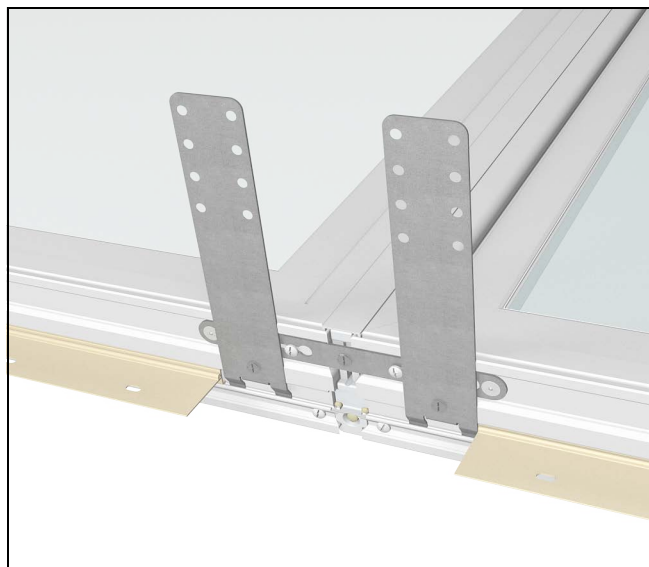

Figure 16
4. For sill mullion joints, take previously removed sill nail fin and cut sill nail fin at each mullion joint location and shorten the ends of each by 3" - 3.5" (76-89) near each mullion to allow space for the flat sill structural brackets and nail fin pieces into the sill T-slot. See Figure 16.